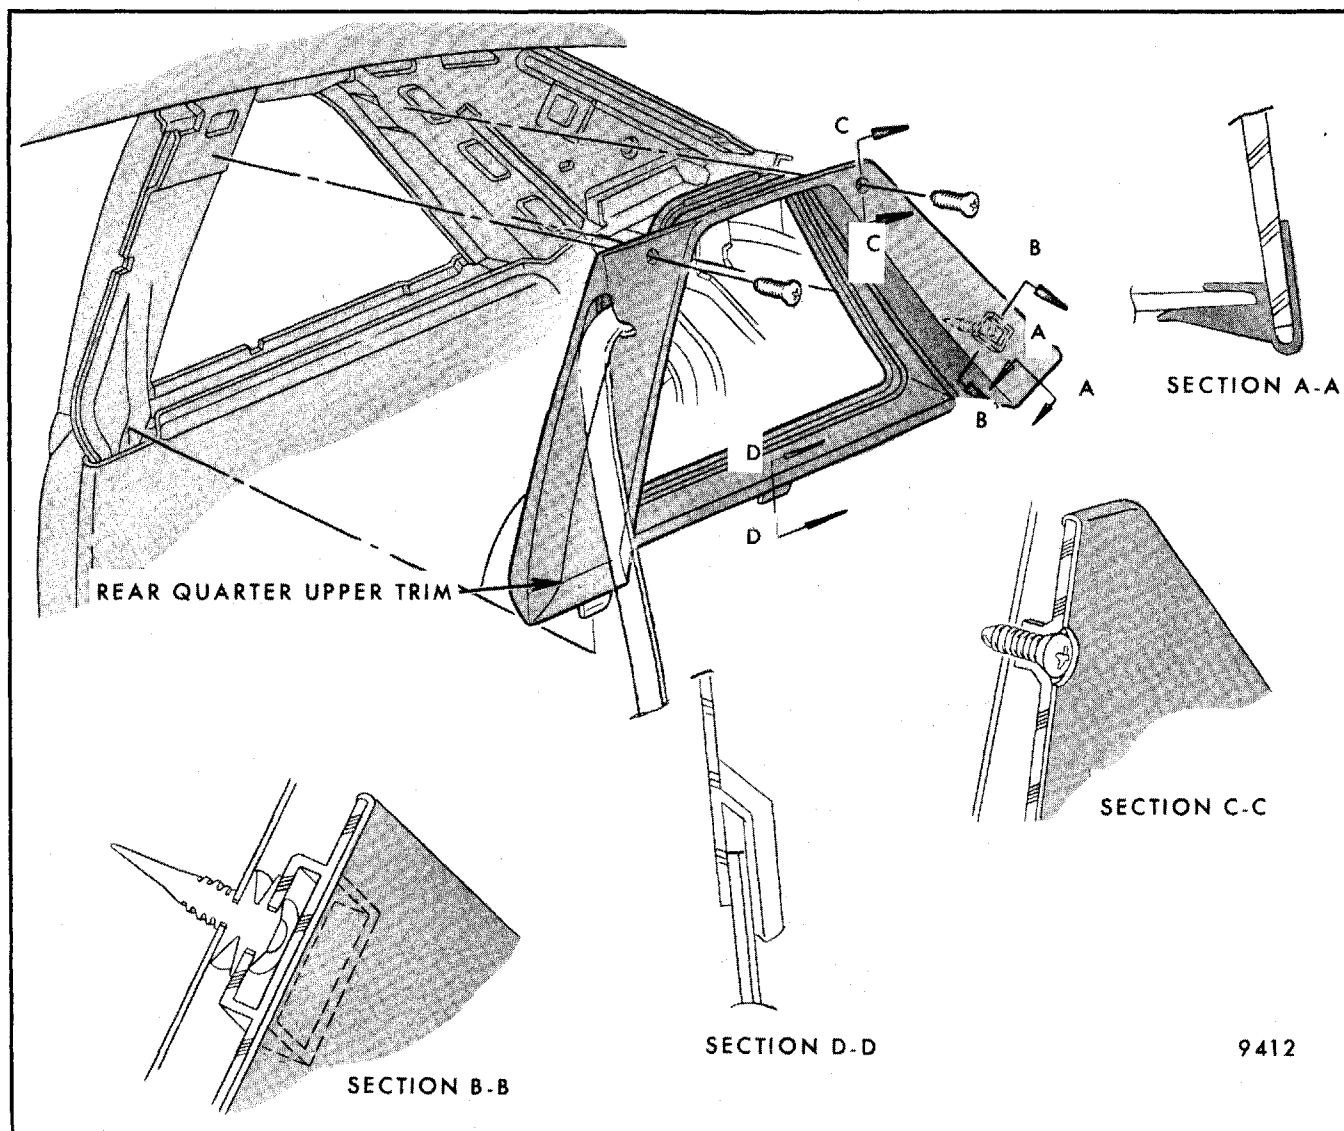

Fig. 6-16-Quarter Upper Trim Attachment - C Style Shown
8. Insert tool BT-7323 or equivalent under lower front and/or rear edges of trim panel until tool engages around fastener. Then pry inboard to remove fastener and trim panel (Figs. 6-16 and 6-19).
On B,C coupe styles (less Cadillac C-47), detach shoulder harness to floor attaching bolt, then feed harness through opening in quarter upper trim panel to complete trim removal. On Cadillac C-47 style, carefully pry escutcheon from slit in shoulder harness opening, then slip harness through slit to remove (Fig. 6-16).